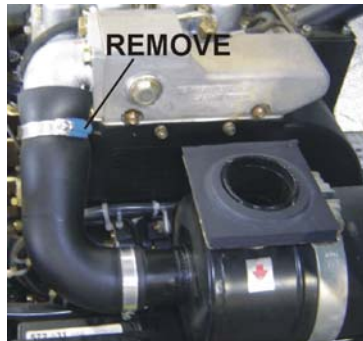

Figure 4. Air Cleaner Clamp
- Loosen clamp (Figure 4) that connects air cleaner hose to engine body. Pull air cleaner hose away from engine body. Set clamp aside.